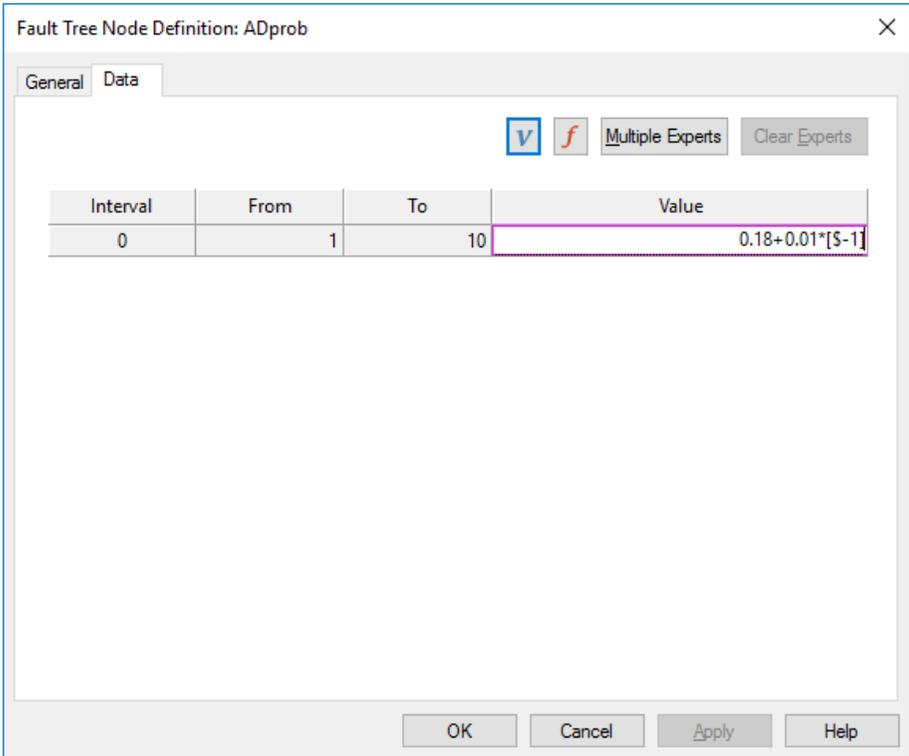

Figure 8-3. Data Tab of the Node Definition Dialog for Series Value Node ADprob
- ⇒ Switch to the data tab. Notice that the From and To boxes now display the series interval defined for the fault tree as shown in Figure 8-3.
- ⇒ Edit the Value column to be a formula "0.18+0.01*[\$-1]" as shown in Figure 8-3.